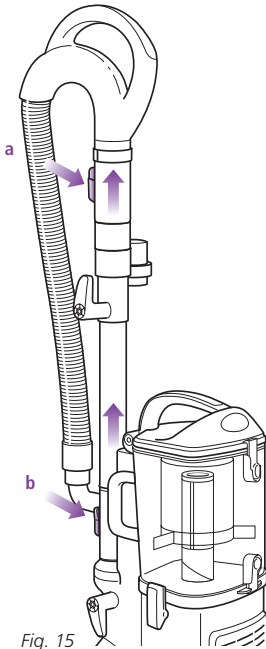

Fig. 15
- 2 Press the handle release button **(a)** and pull the handle up or press the extension wand release button **(b)** and pull the extension wand up. (Fig. 15)